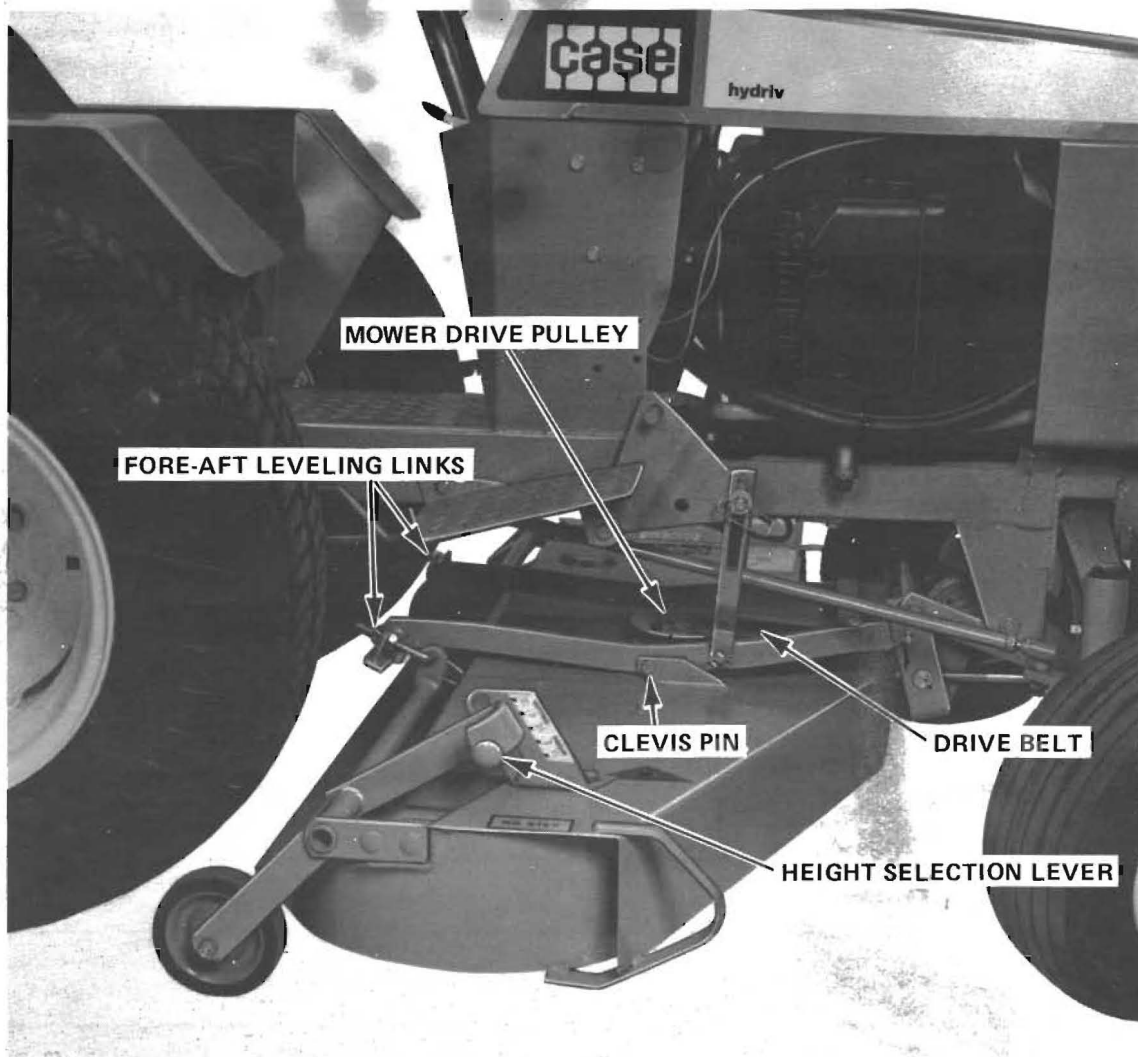

FIGURE 16 MOUNTING THE J-46 MOWER DECK
For Model 446 only, the special right lift link should be installed on the outside of the right lift arm. Install plain washer on the outside against the lift link slot. Refer to Figure 16.
- Place the height selection lever in the 1½" setting to gain additional clearance and slide the mower under the tractor from the right hand side and align the deck with the attaching holes in the mounting bracket. Raise the mower to the 2-1/2" setting. Lower the mounting bracket to the mower deck. Refer to Figure 16.
- Install the Fore-Aft leveling links to the mounting bracket as illustrated in Figure 16.